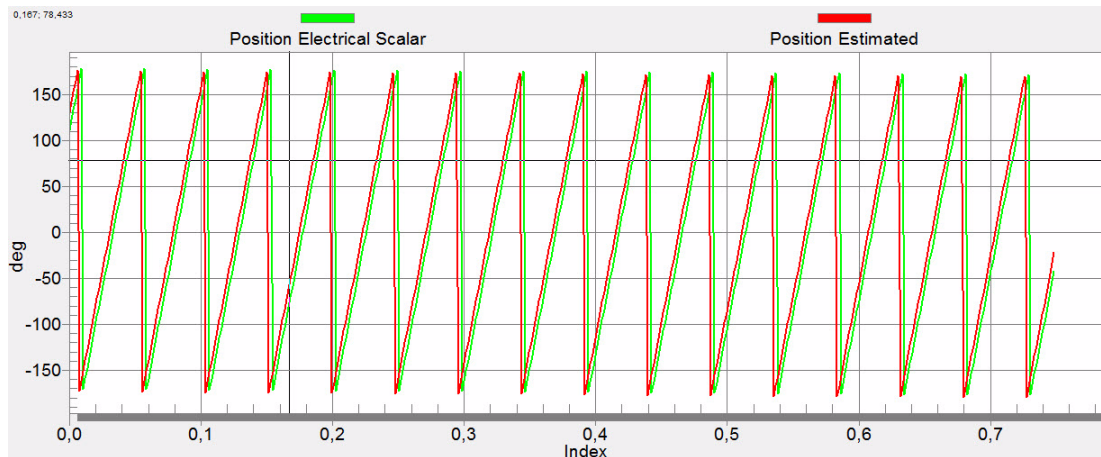

Figure 5. Generated and Estimated Positions
7. Select the *Position* recorder to check the observer functionality. The difference between the Position Electrical Scalar and the Position Estimated should be minimal in order for the Back-emf position and speed observer to work properly (see Figure 5). The position difference depends on the motor load. The higher the load, the bigger the difference between positions because of the load angle.